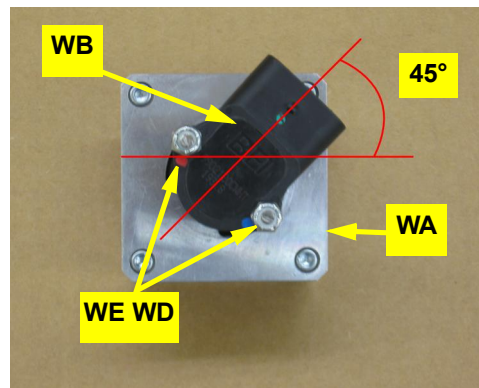

Figure 1a: Prepared WAS housing/connector
- Using the provided hardware **WE** (nuts) and **WD** (bolts - not shown), attach the WAS wire connector **WB** to the WAS housing **WA**. Install the bolts up through the bottom of the housing. The WAS wire connector **WB** can be mounted 45° to any of the WAS housing **WA** sides (Figure 1a).